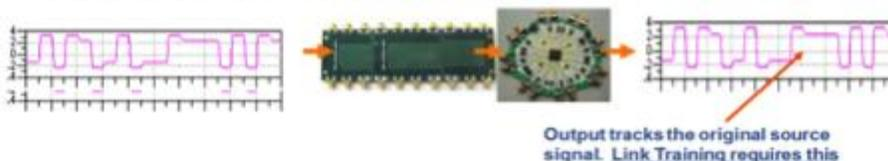

Figure 5: Redriver vs linear redriver waveforms, according to a Pericom Semiconductor lab test.
It's important to understand that while redrivers will "fix" SI problems, they do so by regenerating signals as shown in the Figure 5 graphs provided by Pericom Semiconductor. Notice that the top waveforms in Figure 5 (non-linear redrivers) show some pre-emphasis waveform attenuation. This is just fine for opening the signal eye downstream; however, changing the waveform *even just a little bit* can cause PCIe Link Training to fail.
The result may be that the channel is deemed insufficient for PCI Express Gen 3 speeds (8 Gbps) and the Source/Destination agree to communicate a slower Gen 2.0 (5 Gbps) speed. Conversely, the bottom waveforms in Figure 5 show how a linear redriver precisely reproduces the input waveform by accurately tracking the source signal. The channel would pass Link Training, and the devices would communicate at the fastest possible channel speed.
The notional waveforms shown in Figure 5 illustrate the differences between a redriver—sometimes referred to as a *limiting redriver*—and a linear redriver. Figure 6 shows the logical block diagram differences. In the linear case, the final analog amplifier stage drives the differential channel directly and provides channel equalization, whereas the more common redriver adds a de-emphasis (DE) stage after the amplifier. The DE stage is needed to add back the emphasis that was limited (chopped off) at the input side of the limiting redriver.